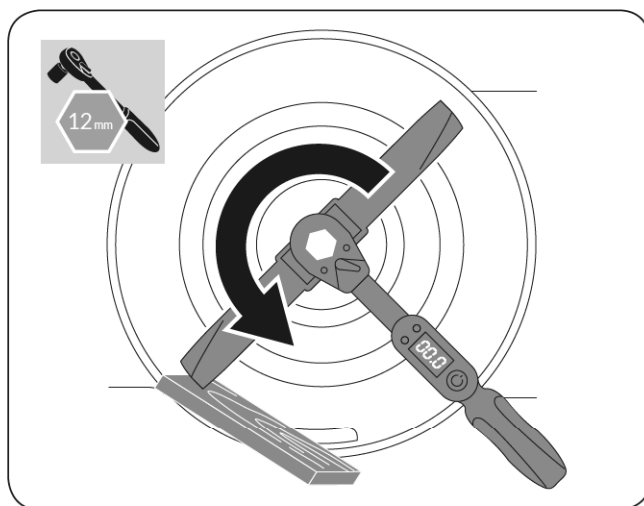

Figure 38
3. Tip the machine onto its side with the air filter and carburetor facing up. Use a block of wood to hold the blade steady. (See **Figure 38**)